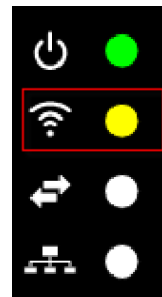

Fig. 5-12: WiFi Connection Instructions
Step5: After approximately three minutes the WiFi of the ZeverCom WiFi will connect to the wireless local network. The status indicator on the Wireless page should display the  icon and the yellow WiFi LED should now illuminate, as shown in Fig. 5-12.